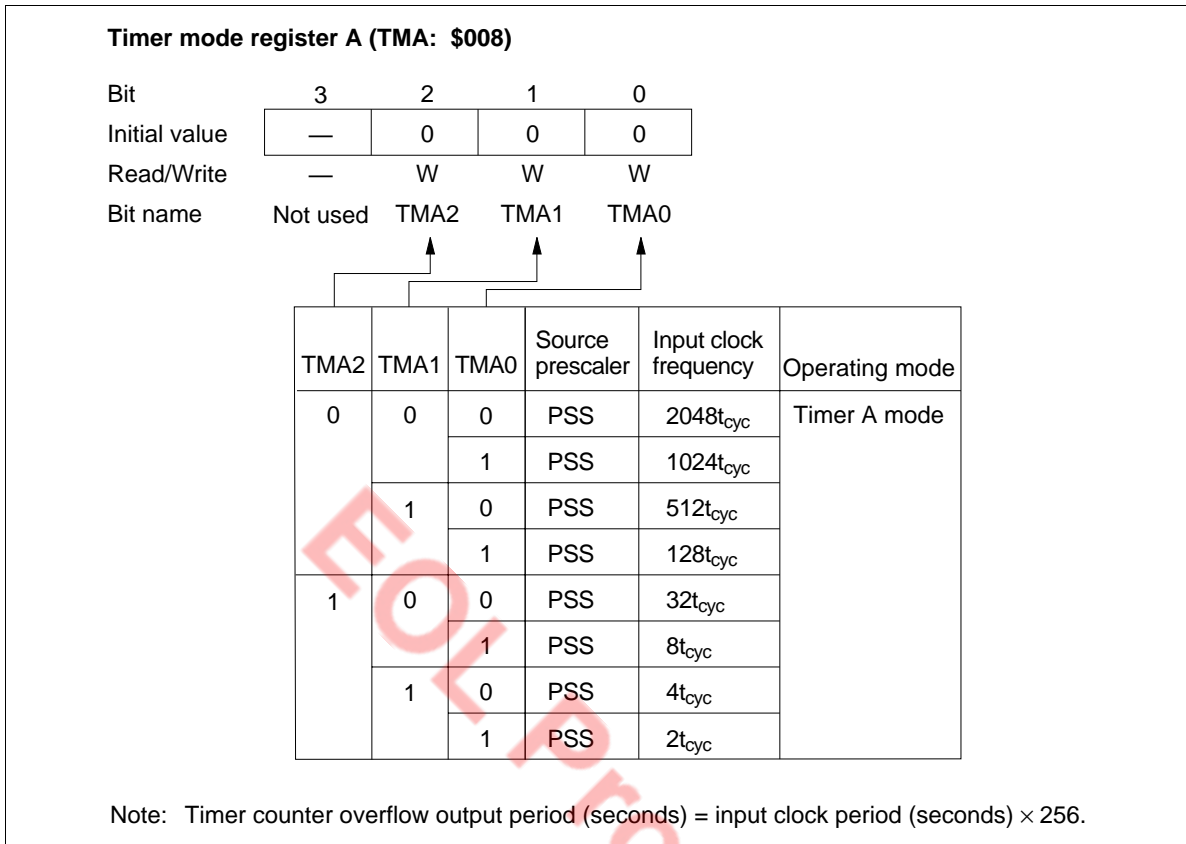

Figure 34 Timer Mode Register A (TMA)
- Timer mode register A (TMA: \$008): Four-bit write-only register that selects timer A's operating mode and input clock source as shown in figure 34.